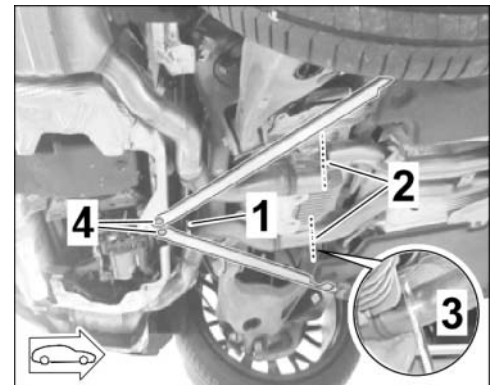

Figure 25
- 3.3.2 Remove hexagon-head bolt M8 x 16 (2 x) on strut between the rear silencers (⇒ *Figure 25 -1-*) and remove strut.
- 3.3.4 Remove hexagon-head bolts M8 x 20 (2 x) on rear-end cross strut (⇒ *Figure 25 -4-*). ⇒ *Workshop Manual '421319 Removing and installing rear-axle chassis subframe struts'*